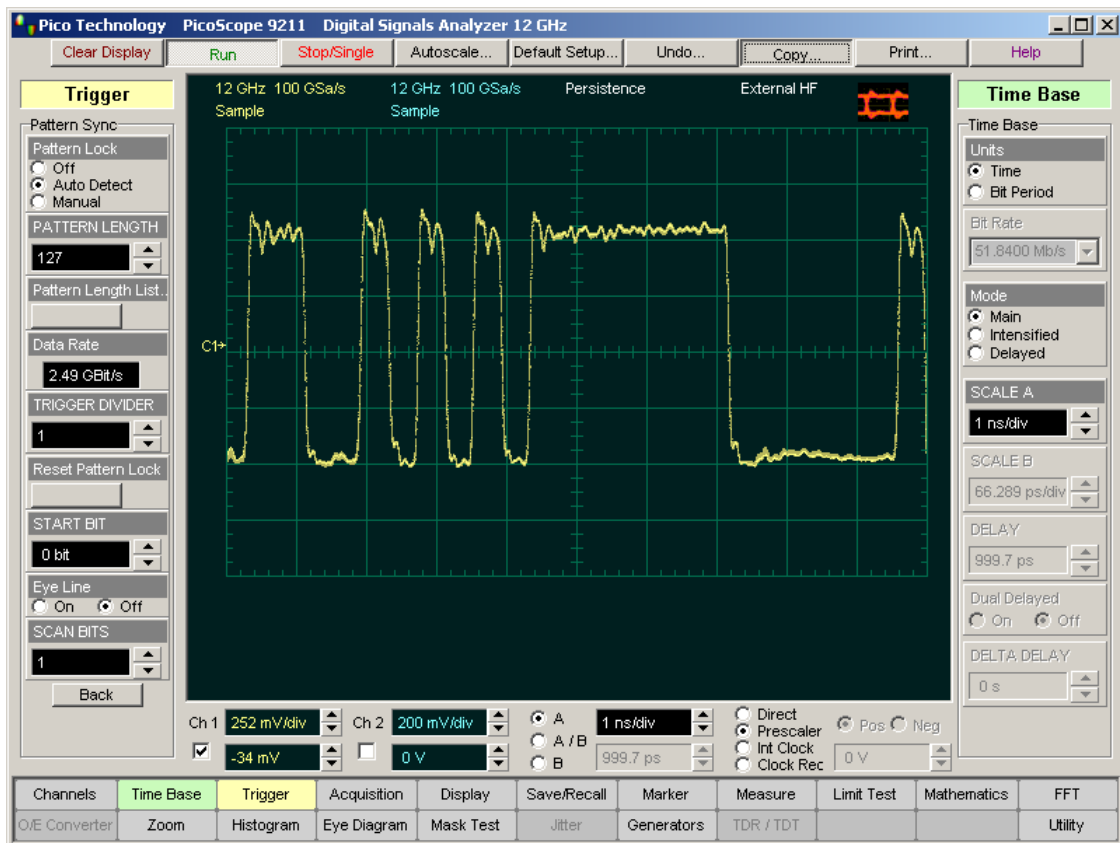

Figure 3
9. Set SCAN BITS to 32. See Figure 3.